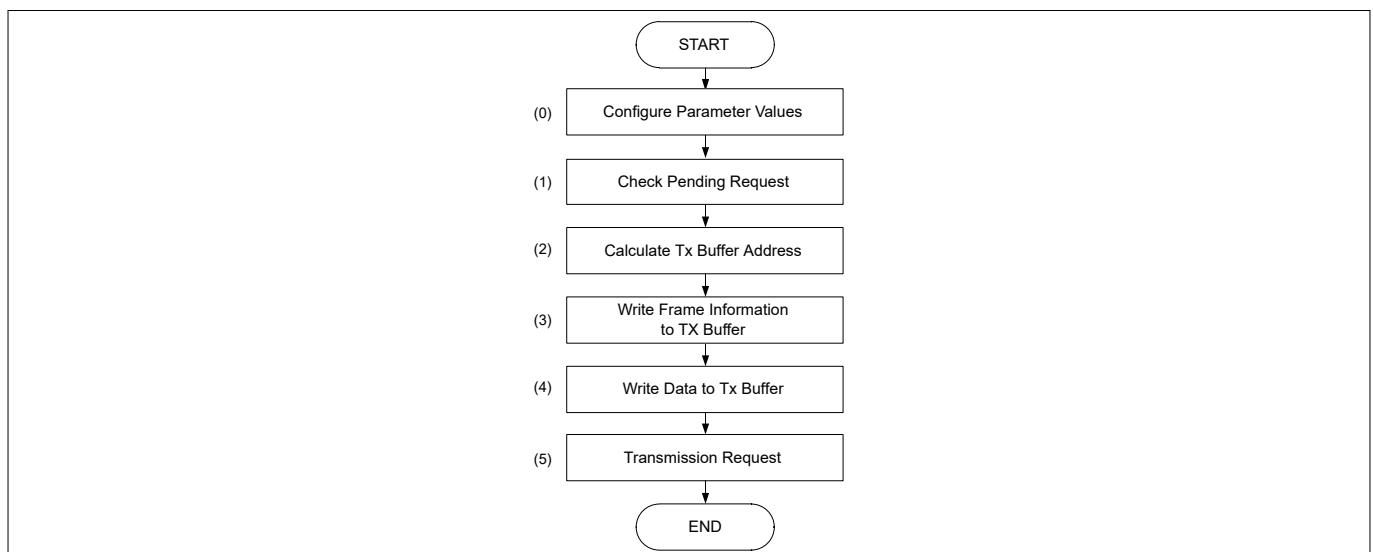

Figure 6 Example of message transmission flow
Figure 6 is an example of message transmission flow. This example does not use the Tx Interrupt. In this flow, (0) is performed in the configuration part, and (1) to (5) are performed in the driver part.